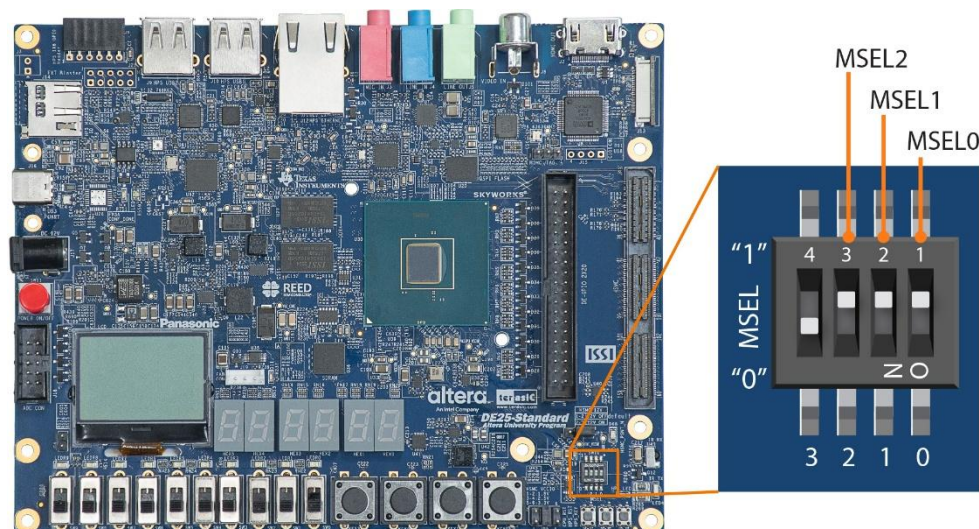

Figure 3-1 DIP switch (SW10) setting of Active Serial (AS) mode on DE25-Standard board
When the DE25-Standard board is powered on, the FPGA is configured from QSPI FLASH or the HPS. The MSEL[2:0] switches are used to select the configuration scheme, implemented as a 4-pin DIP switch **SW10** on the DE25-Standard board, as shown in **Figure 3-1**.
Figure 3-1 shows MSEL[2:0] setting of Active Serial (AS) Fast mode, which is the default setting on the DE25-Standard. When the board is powered on, the FPGA is configured from QSPI Flash, which is pre-programmed with a default configuration.